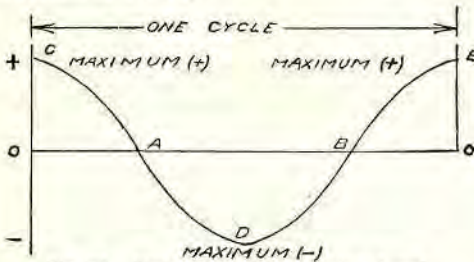

Fig. 7A. Explanation of the meaning of cycle.
A cycle means a series of events which continually reoccur. In the case of a condenser, for example, the current discharge at one instant is a maximum (+), as shown at (C) (Fig. 7A). It gradually declines to 0 at (A), then builds up to a maximum (-) as shown at (D), again declining to 0 at (B), reversing in direction and building up to a maximum (+) at (E), which is the same condition as at (C), thus reversing the direction twice at (A) and (B) and completing the cycle evolution, which is repeated over and over again until the discharge dies down to 0 (zero).